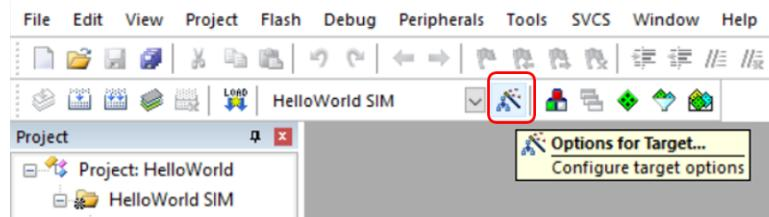

Figure 7.12: Keil IDE: Target Options Configuration
1. Bring up the target option configuration window by pressing the target options button (See Figure 7.12).